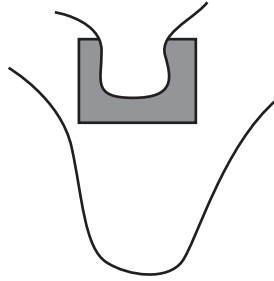

Fig. 2.2
- (b) Make a large drawing of six cells from the part of the leaf indicated by the shaded area in Fig. 2.2.